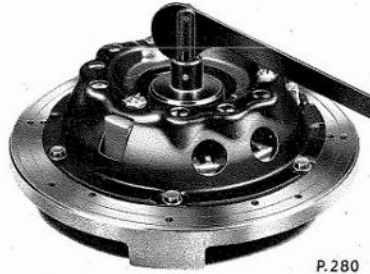

Fig. D.8. Actuator clamping the clutch
5. Screw the actuator into the centre hole in the base plate and press the handle down to clamp the clutch (see Fig. D.8). Screw the setbolts provided, tightly into the appropriate tapped holes in the base plate, thus securing the clutch, and remove the actuator.